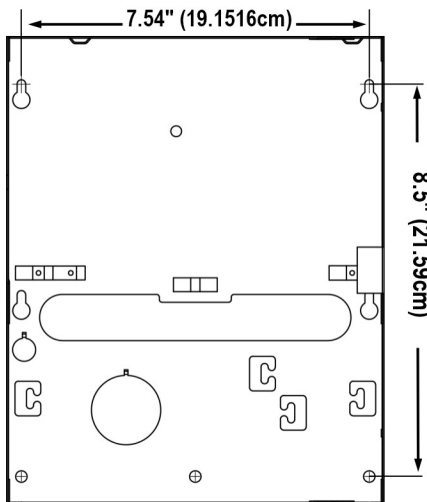

Figure 3 - NA-1 Cabinet Mounting Hole Dimensions
2. Mark the four mounting holes against the mounting surface using the NA-1 cabinet as a template or using the measurements provided in Figure 3.